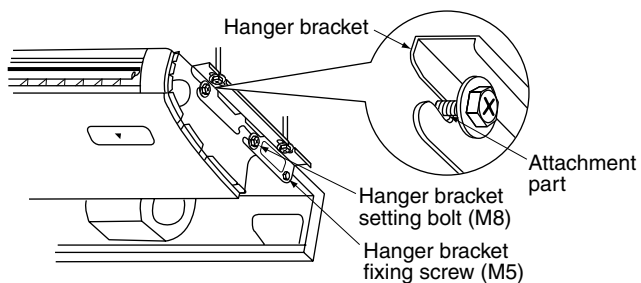

Fig. 11
(2) **While sliding the main body from the front, lift it and insert the bolts (M8) for the hanger brackets into the attachment part on the hanger brackets. (Refer to Fig. 11)**
(3) **Fasten the bolts for the hanger brackets (M8) securely in 4 places, left and right. (Refer to Fig. 11)**
(4) **Replace the screws for the hanger brackets which had been removed (M5) securely in 2 places left and right. This is necessary to prevent any forward and back slide in the main body of the indoor unit. (Refer to Fig. 11)**